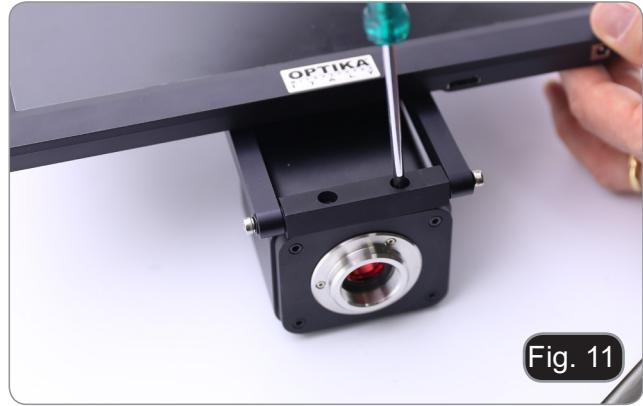

Fig. 11
2. Screw the two provided cross screws on the back side of the camera. (Fig. 11)